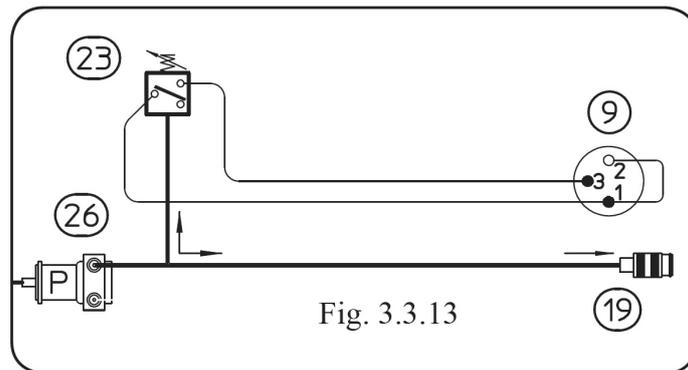

Fig. 3.3.13
When the power source is turned on, panel board (47) checks that the cooling unit is connected using a signal provided by the jumper between terminals 1 and 2 of the connector (9) on the cooling unit (Fig. 3.3.13). With connector (9) disconnected, or the jumper open, the cooling unit is disabled and the type of operation cannot be selected from the control panel; if the cooling unit is already enabled, the power source locks and the corresponding error code is displayed.
- Power board (56), connector J4, terminals 3(+) - 4(-) = 0 VDC, unit connected; +24 VDC unit disconnected or wiring interrupted.
PUMP TEST (26) (see wiring diagram Fig. 3.3.13).
- Pump terminals (26) on cooling unit, voltage = 220 VAC, with cooling unit enabled.
- With the power source off, temporarily disconnect wires of pump (26) from the terminal block and check resistance at terminals of pump (26) (motor winding resistance). Correct value = 22 ohm, approximately.
- Check integrity and connection of start-up capacitor of motorised pump (26), located beside pump motor (26).
- Terminals of fans (2) on cooling unit, voltage = 220 VAC, with cooling unit enabled.
- With the power source off, temporarily disconnect the wires of fan (2) from the terminal block and check the resistance between the terminals of fan (2) (windings of fans (2)). Correct value = 750 ohm, approximately.
PRESSURE SWITCH (23) TEST (Fig. 3.3.13 and connector map section 5.6).
- Power board (56), connector J4, terminals 1(+) - 4(-) = 0 VDC, approximately, with pump (26) running (pressure switch contact closed = sufficient pressure); +24 VDC, with power source on and pump (26) stopped (pressure switch contact open = insufficient pressure).